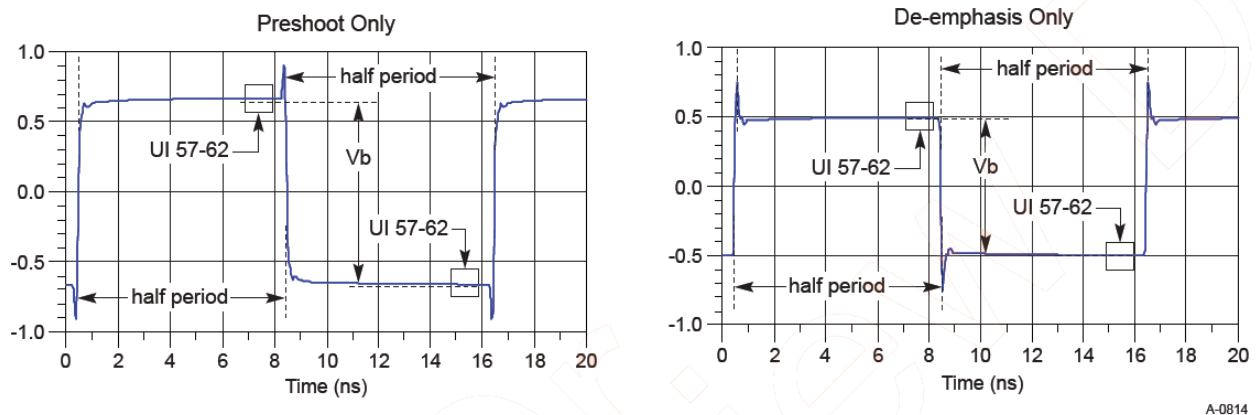

Figure 108 Waveform measurement points for preshoot and de-emphasis
8.0 GT/s, 16.0 GT/s and 32.0 GT/s PCIe signaling must support the full range of presets given in Table 8-1 (PCIe Base Specification Revision 5.0). Presets are defined in terms of ratios, relating the pre-cursor (V_c) is referred to as pre-shoot, while the post-cursor (V_b) is referred to as de-emphasis. This convention permits the specification to retain the existing 2.5 GT/s and 5.0 GT/s definitions for Tx equalization, where only de-emphasis is defined, and it allows preshoot and de-emphasis to be defined such that each is independent of the other. The tolerances in Table 8-1 (PCIe Base Specification Revision 5) also apply to 2.5 and 5.0 GT/s de-emphasis. The maximum swing, V_d , is also shown to illustrate that, when both c_{+1} and c_{-1} are nonzero, the swing of V_a does not reach the maximum as defined by V_d . The high frequency nature of PCIe signaling makes measurement of single UI pulse heights impractical. Consequently all amplitude measurements are made with low frequency waveforms as shown in Figure 108.